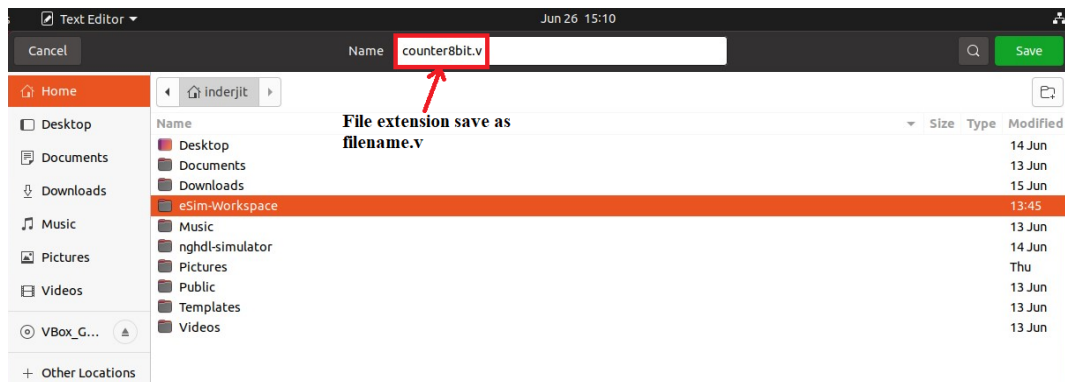

Figure 11.8: Saving verilog file in eSim workspace
2. Open a blank Text Editor and write verilog code of 8 bit counter and save the file as either filename.v in the eSim-Workspace as shown in Fig. 11.8.